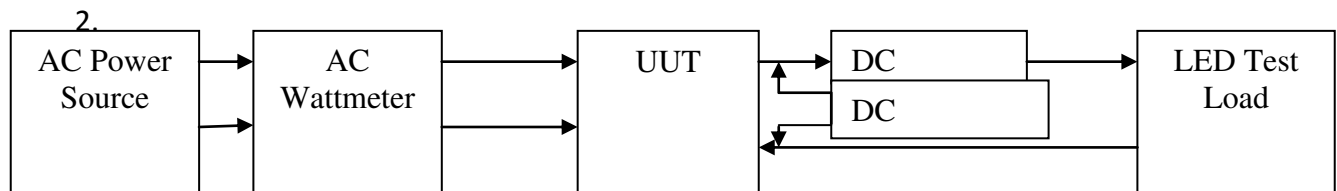

Figure 1 Test Set Up
1. Connect the Unit Under Test (UUT) per the test set up in Figure 1
Connect the UUT per figure 1